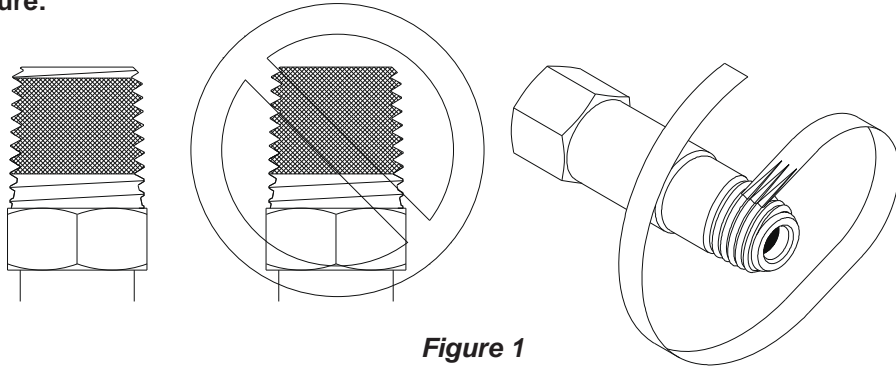

Figure 1
3. Be sure that all fittings are secure and leak-tight. PTFE tape should be used on pipe threads(See fig. 1).